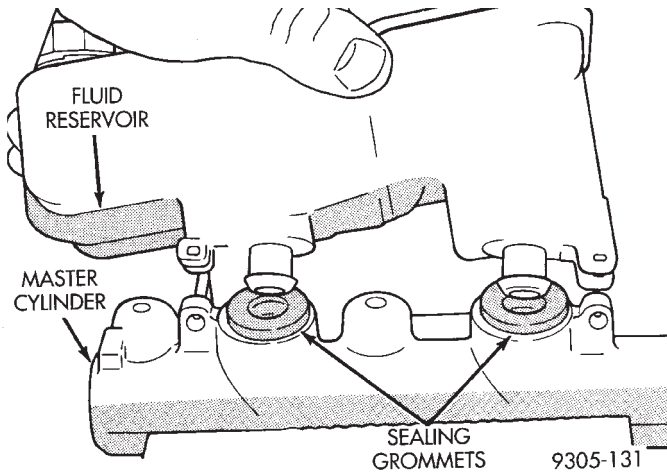

Fig. 75 Removing Reservoir
(6) Remove reservoir from master cylinder (Fig. 75) by pulling upward on the reservoir while rock it from side to side.